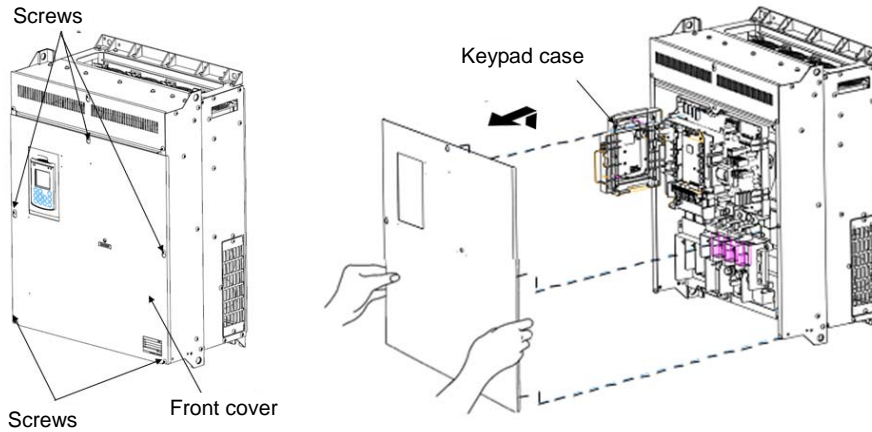

Figure 2.3 Removing the Front Cover and the Wiring Plate (VXA210S-4E)
(2) 110 to 710 kW
- ① Loosen the screws on the front cover, hold the right and left ends of the front cover, and slide it up to remove it.
- ② After making the necessary wiring connections, align the top of the front cover with the holes on the unit and reattach the cover by reversing the process illustrated in Figure 2.3.